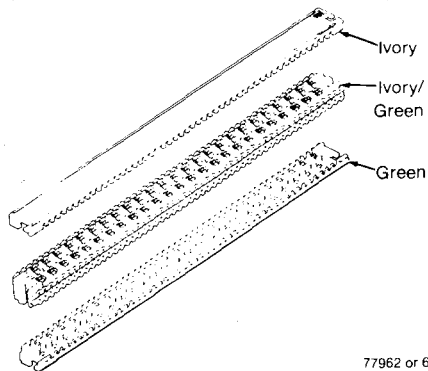

Fig. 3—Super Mini Half Tap Modules.
- 2.03 The 4008-D (dry) or 4008-C (encapsulated) Super Mini Half Tap Modules are designed to tap onto a through cable. The connector consists of three components; a base, body, and cover. The through cable is placed in the base and will not cutoff when crimped. See Figure 3.